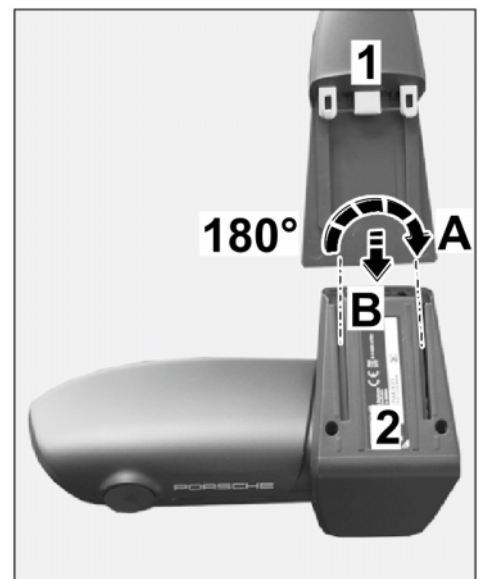

Figure 7
2.1.1 Install retainer plate with wire harness on the base of the front camera until the locking mechanism engages. ⇒ *Figure 7*